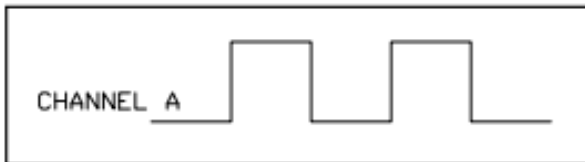

Figure 2. Single channel encoder
- Single channel (Figure 2)
As seen in Figure 2, a single channel has a single “A” channel that will output a set number of pulses per revolution. The single channel encoder will give feedback that can determine rate, velocity, or acceleration. A single channel encoder cannot give directional feedback and is therefore limited from many bi-directional applications.